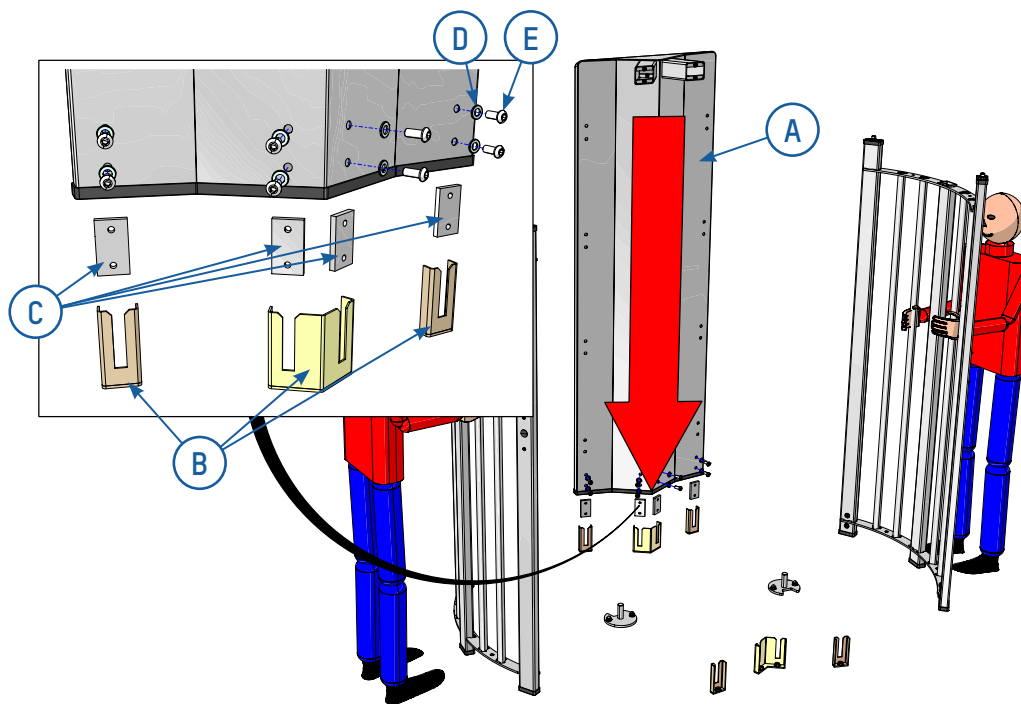

Fig. 20
Then remove the central section (A) from the corresponding fixing rails (B) and hold it in place, without tightening, using mounting brackets (C), screws (E) and washers (D). [⇒ Fig. 20]